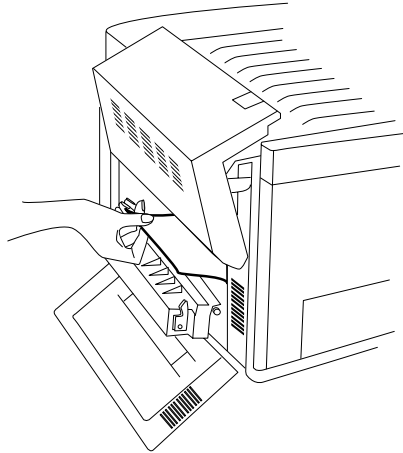

Fig. 9.11 *Remove the Jammed Media*
5. Remove the jammed media by pulling it straight out from above the transfer unit (fig. 9.11).